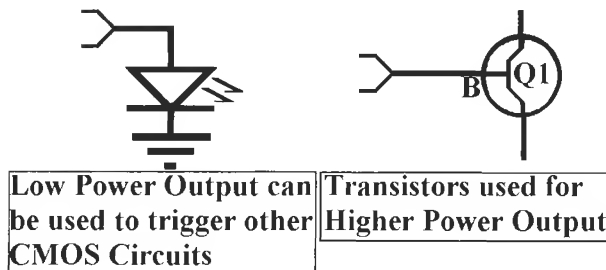

Figure L43-1
- The outputs are not limited to LEDs as shown in Figure L43-1. They can control transistors to give power.